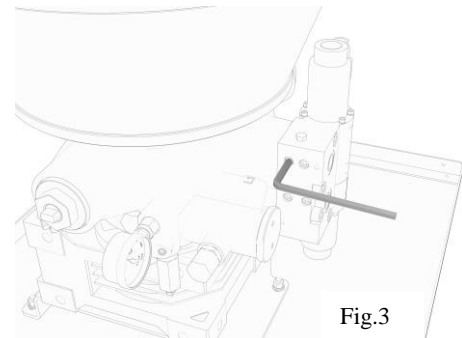

Fig.3
- Unscrew the inverter's four fixing screws (Fig. 3).